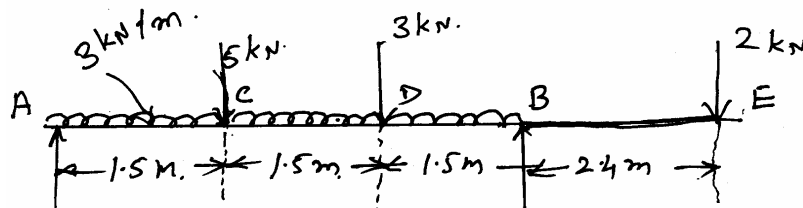

Fig.Q5(b)
- b. Draw the BMD and SFD for the loaded beam as shown in the Fig.Q5(b). Mark the salient values on the Figure. (16 Marks)